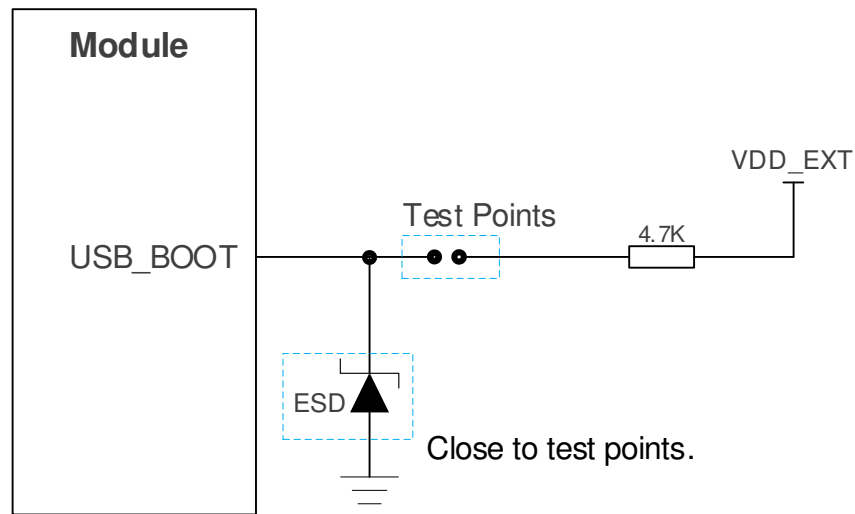

Figure 18: Reference Circuit of USB_BOOT Interface
2. When using MCU to control module to enter the emergency download mode, please follow the above timing sequence. Directly connect the test points as shown in **Figure 18** can manually force the module into download mode.
4.3. (U)SIM Interface